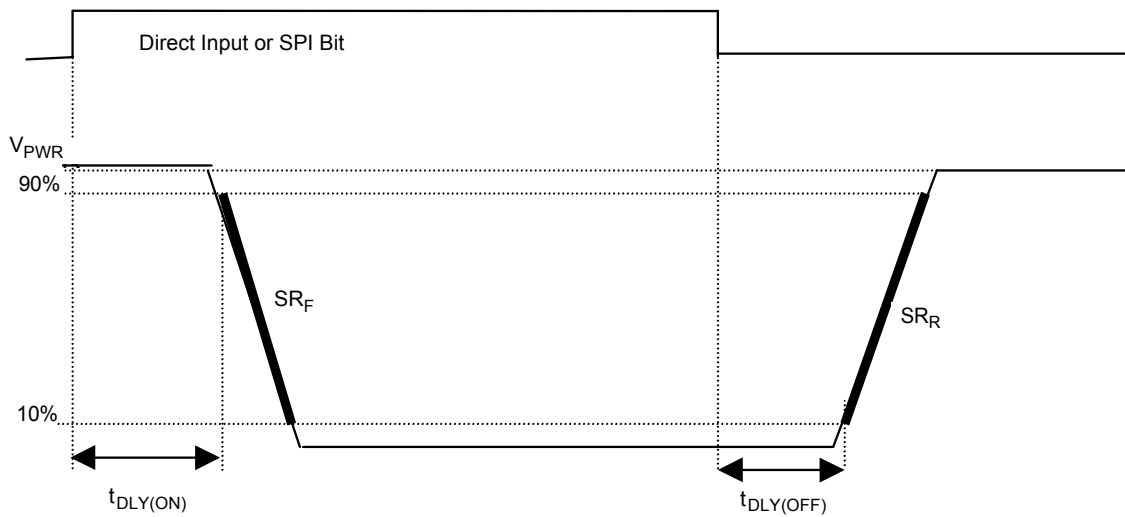

Figure 3. Output Slew Rates and Time Delays, Low Side
- Low-side output rise and fall slew rates measured across a 5.0 Ω resistive load at low-side output = 10% to 90% (see Figure 3, page 18).
- Low-side output turn-ON delay time measured from 50% of the rising ILS to 90% of V_{OUT} with R_L = 27 Ω resistive load (see Figure 3, page 18).
- Low-side output turn-OFF delay time measured from 50% of the falling ILS to 10% of V_{OUT} with R_L = 27 Ω resistive load (see Figure 3, page 18). These parameters are guaranteed by process monitoring.